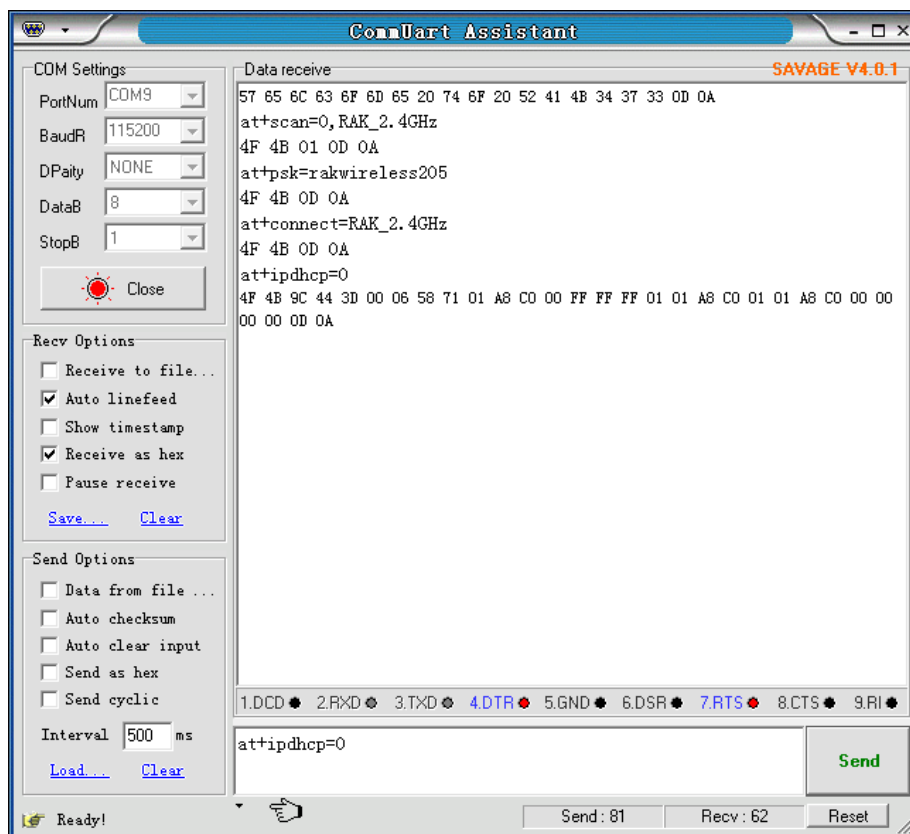

Figure 2-2 The module is added to the router
6. At this point, the module has been successfully added to the router (Figure 2-2).